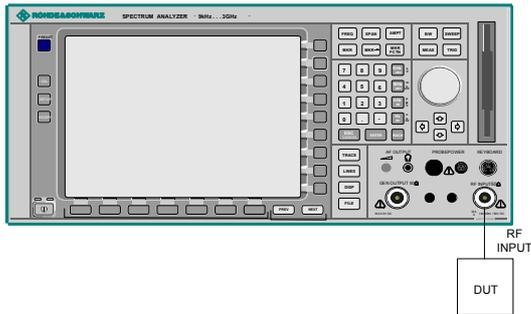

Fig. 1 Preparation for level detection
- Connect the DUT to the RF input of the spectrum analyzer. (see Fig. 1)